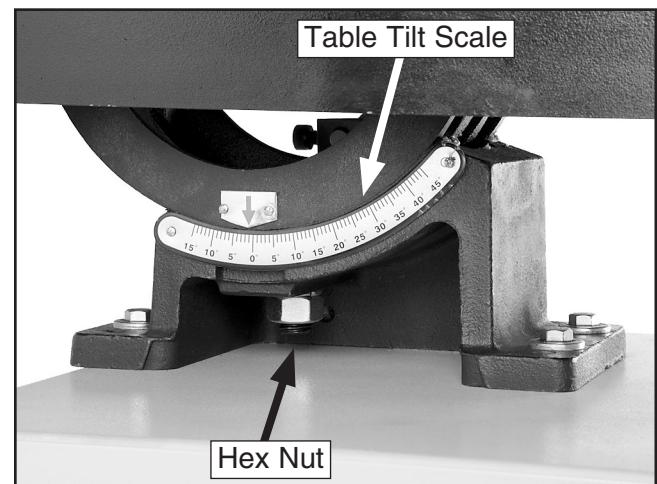

Figure 31. Table tilt scale and hex nut.
2. Use a 23mm wrench to loosen the hex nut underneath the rear of the table (see **Figure 31**).